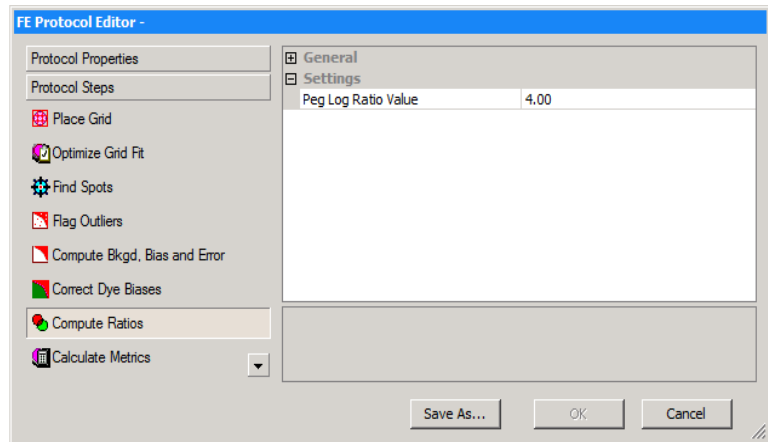

Figure 71 FE Protocol Editor — Compute Ratios selected
- Click the **Compute Ratios** tab in the FE Protocol Editor to change the settings to calculate these measures. See Figure 71 on page 243.